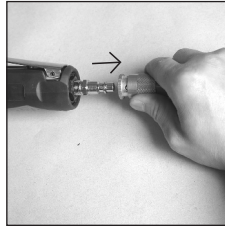

Figure 4
- Disconnect the tool from air supply. (See Figure 4)